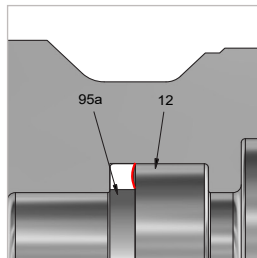

Figure 10
- ▶ Insert Pos. 95a into the recess of Pos. 12 with the WEH® O-Ring Picker part no. 101969 (Figure 8 until Figure 10).
Note: Note the installation position (Figure 10).